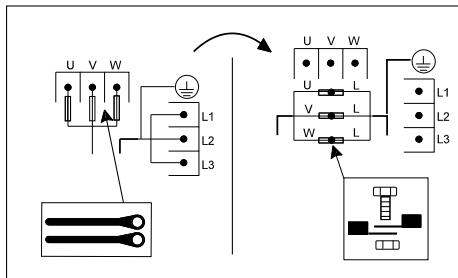
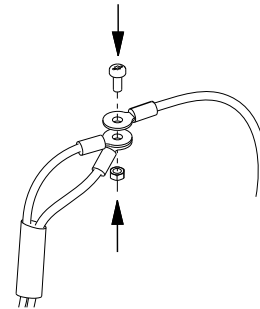

Fig. 25 Emergency label on the cover over the motor terminals
Fig. 26 Joining the motor conductors (two) and the supply conductor
Emergency operation is illustrated on a label on the cover over the motor terminals. See fig. 25.
4. Connect the conductors as shown on the label on the cover over the motor terminals. See fig. 25. Use the screws from the supply terminals and the nuts from the motor terminals. See fig. 26.